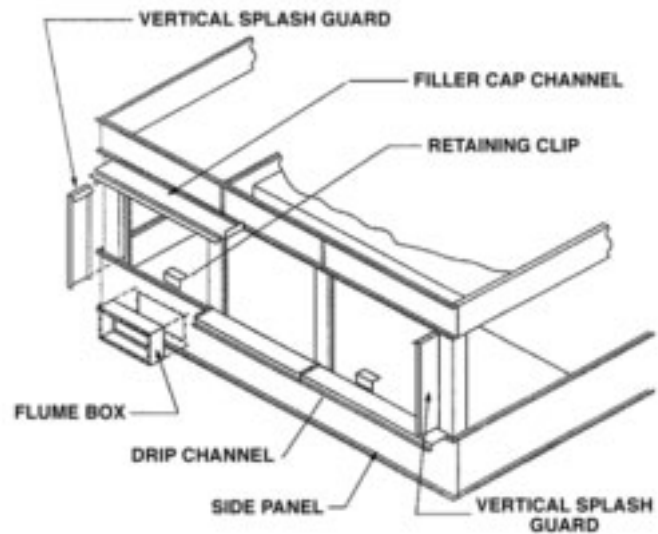

Figure 6 – Attachment of Drip Channel and Splash Guards
10. Place the vertical splash guard in the bend of the vertical supports. On galvanized units, attach the vertical splash guard using 5/16" self-tapping screws. On stainless steel units, attach the vertical splash guard using 5/16" stainless steel nuts and bolts. See Figure 6. Holes must be drilled into the vertical supports in the field to attach the vertical splash guards.